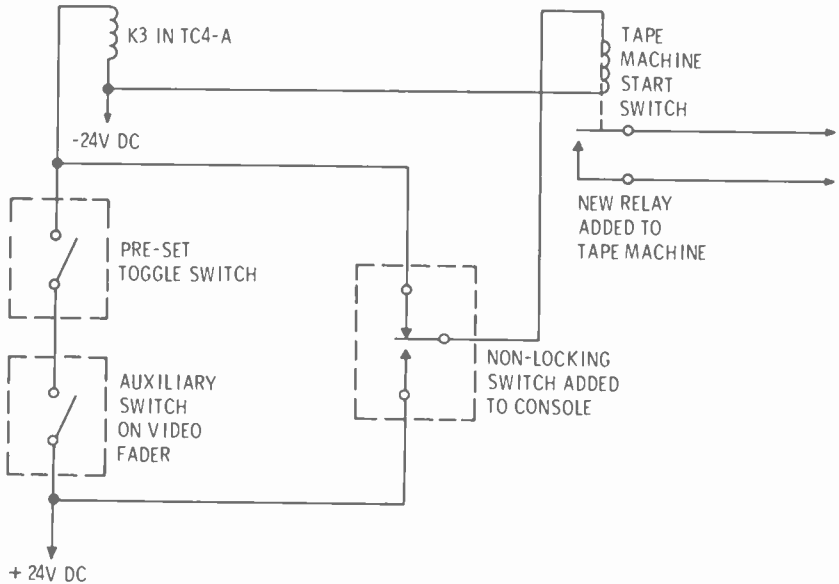

Fig. B-3. *TC-4A modifications to add remote start to a conventional audio tape machine.*
4. Tape Cue-Up and Remote Start (Fig. B-3)
in the console, the tape machine will also run. (Cartridge tape machines use a momentary contact switching action for starting. The control circuits in the TC-4A are on all the time the circuit is activated, which would prevent stopping of the cartridge machine.) Add a spdt, non-locking switch, wired as shown in Fig. B-3. This arrangement will permit the operator to run up the tape machine until it is properly cued up without activating the audio circuits in the TC-4A.